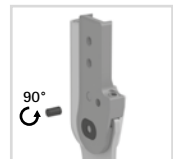

fig. 18
- 7 Turn the worn position of the securing pin by about 90° (fig. 18).